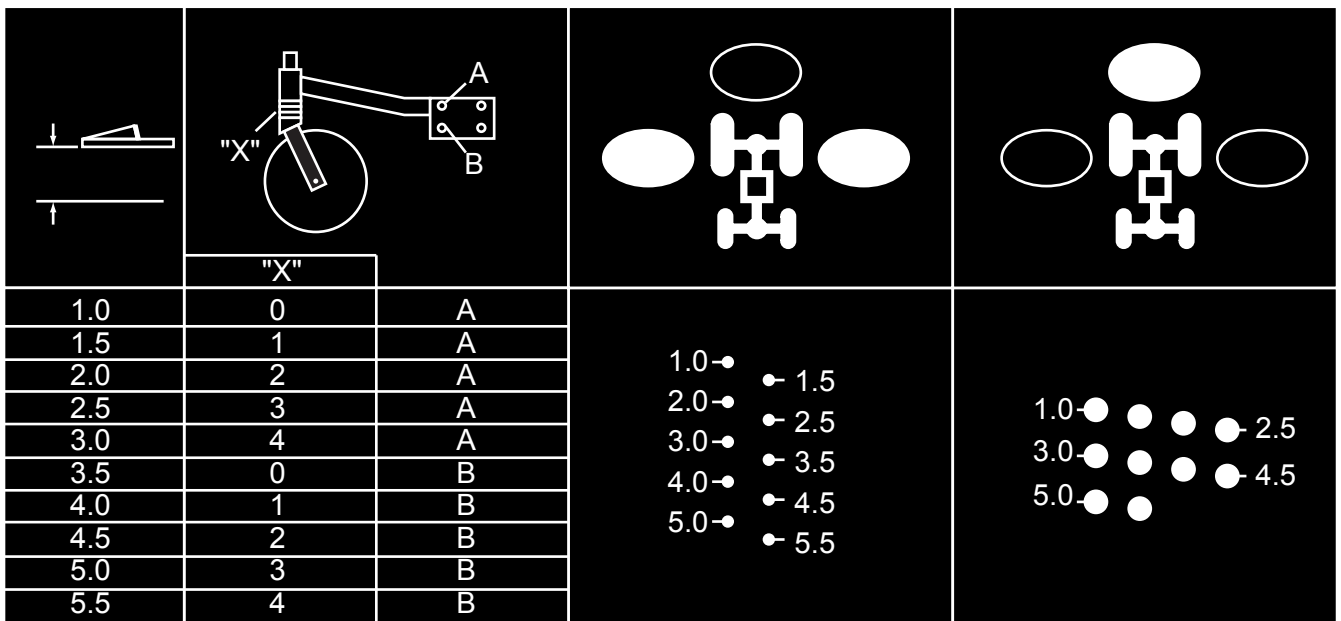

Figure 8J
2. **Figure 8J** shows the height adjustment decal for the casters.